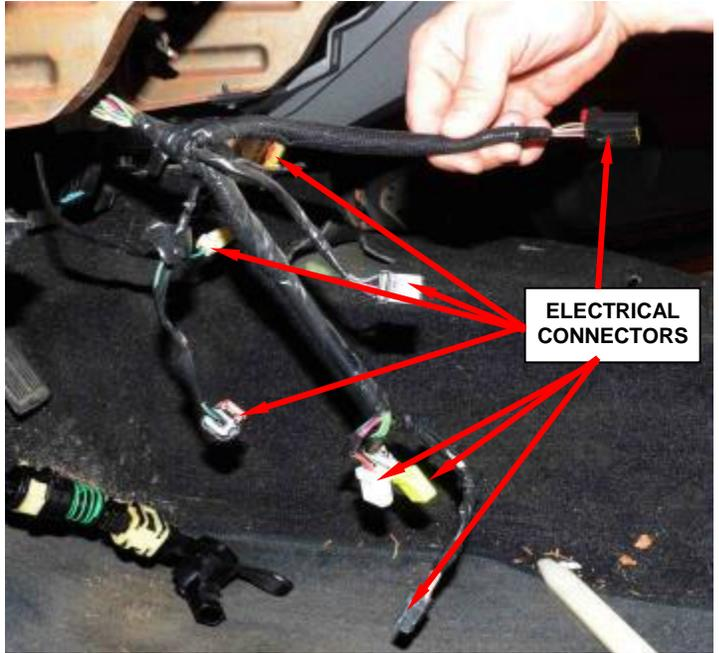

Figure 68 – Column Electrical Connectors
12. Disconnect the wiring harness electrical connectors from the column (Figure 68).